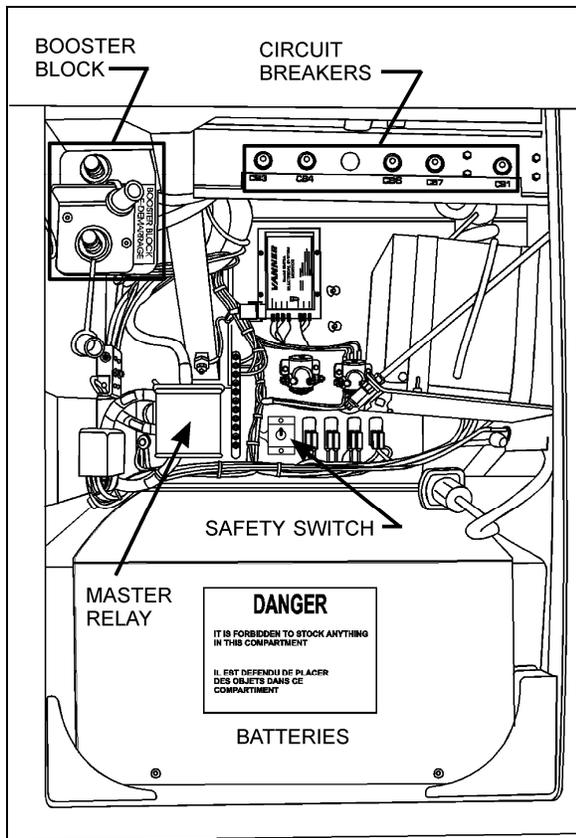
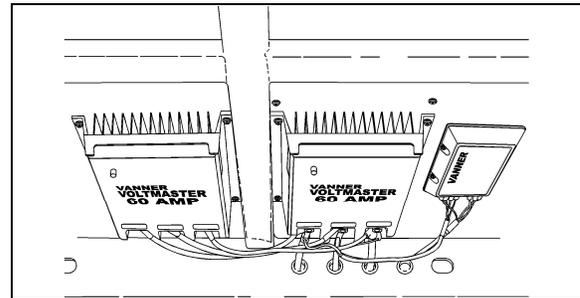

FIGURE 5: MAIN POWER COMPARTMENT (XL2-45) 06316
FIGURE 12: L.H. SIDE OF REAR BAGGAGE COMPARTMENT'S CEILING
On XL2-40 coaches, booster block is located in the engine compartment on the R.H. side and is accessible through engine R.H. side door. On XL2-45 coaches, booster block is located in the main power compartment (Fig. 5).
XL2-40 and XL2-45 coaches are equipped with eight (8) main breakers; they are installed just below R.H. side rear baggage compartment's ceiling or in the main power compartment and in the A/C junction box in the evaporator compartment, they can be identified as follows (Fig. 5, 6, 7 and 8):
This compartment may contain the following components (Fig.12):
On XL2-40 coach, two (2) battery equalizers ("VANNER"-50 amps-12 & 24 volts) are installed just below L.H. side rear baggage compartment's ceiling. The reset buttons are located on the end of equalizers facing the center of the coach (Fig. 12). On XL2-45 coach the battery equalizers are located in the main power compartment (Fig. 5).